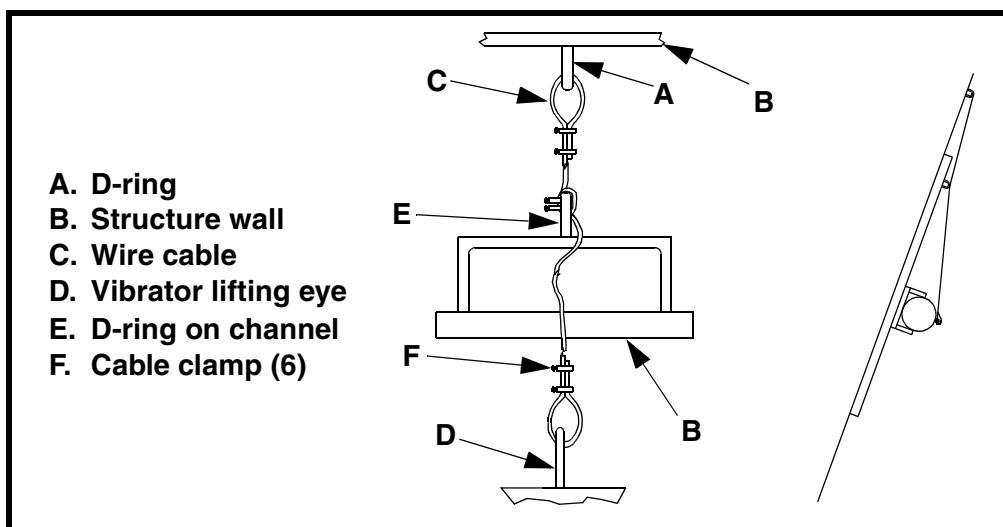

Figure 2. Installing Restraining Cable
- a. Weld D-ring (A, Figure 2) onto structure wall (B) above vibrator.
- b. Loop 1/4-in. (6 mm) wire cable (C) through vibrator lifting eye (D) and D-ring on structure wall.
- c. If using a mounting plate and channel assembly, also loop cable through D-ring on channel (E) as shown. Take up slack so cable is taut.
- d. Apply thread-sealing compound to nuts on cable clamps (F). Install six cable clamps (two on each end and two on loop around D-ring on channel) to secure cable to vibrator eye and D-rings. Tighten nuts on cable clamps.